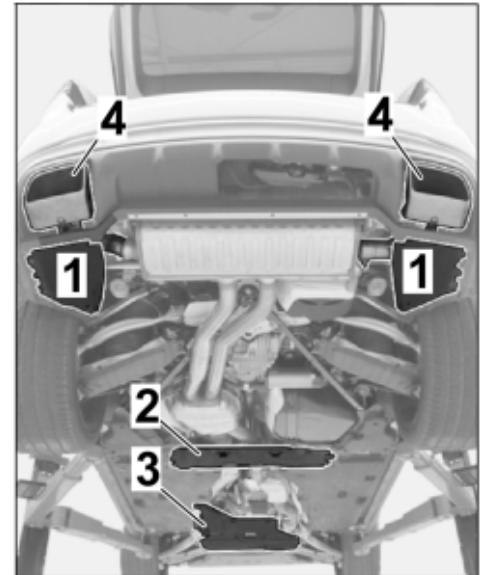

Figure 11
1.7.1 Remove rear underbody cover and rear tunnel cover (⇒ Figure 11 -1 and 2-). ⇒ Workshop Manual '519419 Removing and installing rear underbody cover'
1.7.2 Remove front underbody cover (rear section) (⇒ Figure 11 -3-). ⇒ Workshop Manual '51921900 Removing and installing front underbody cover'
1.7.3 Remove tailpipe (left / right) (⇒ Figure 11 -4-). ⇒ Workshop Manual '263419 Removing and installing tailpipe - T9I'